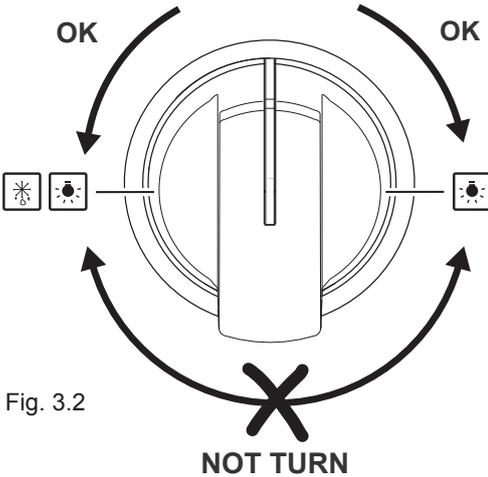

Fig. 3.2
The oven light and the fan motor are controlled by a switch knob on the control panel (fig. 3.2). To light up the oven lamp turn the knob counterclockwise to  position.
**IMPORTANT NOTE:** during ignition of the oven burner the fan motor shall be switched off (light and fan control knob in I Off position - figs. 3.2).
After lighting the oven burner switch on the fan motor by turning the LIGHT & FAN control knob (fig. 3.2) on   position.